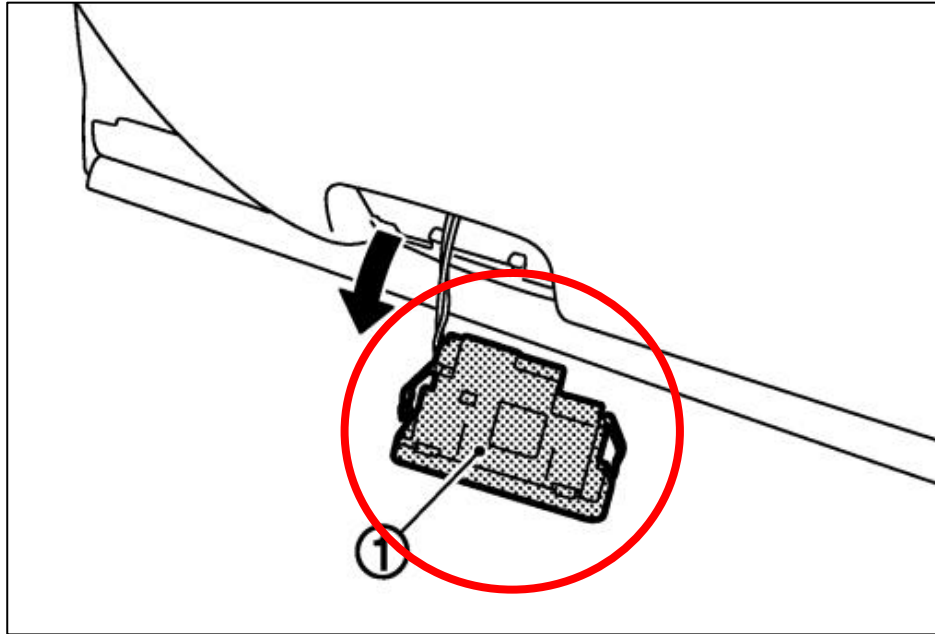

Figure 50
7. Remove the Step Lamp from the Door Panel. *Figure 50.*